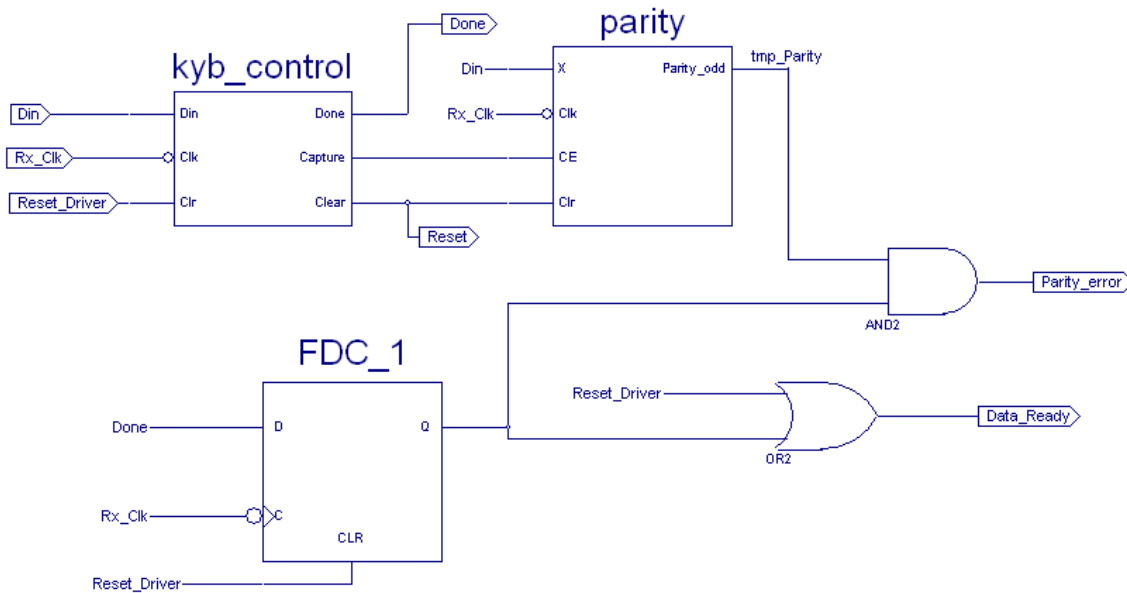

Figure 31
This unit controls the operation of data path based on its internal state machine, generates a control flag when a new character arrives or a transmission error occurs. We have divided this unit into two smaller units, kyb_control unit and parity unit as depicted in Figure 31. We have also included a test bench wave form for the control path in Figure
58. Create a new schematic file similar to Figure 31 in your project and save your file.